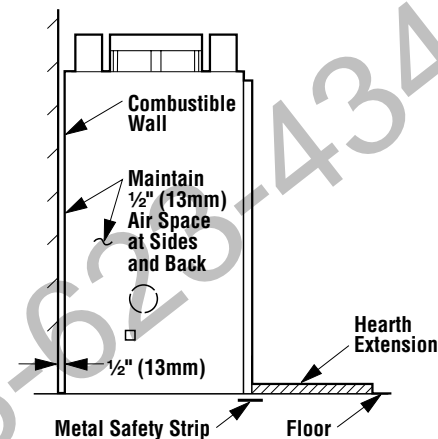

Figure 6
Step 2. Insert the provided metal safety strips, beneath the fireplace as illustrated (Figures 6, 7 and 8). The safety strips should overlap ½" min. for continual coverage of the floor.